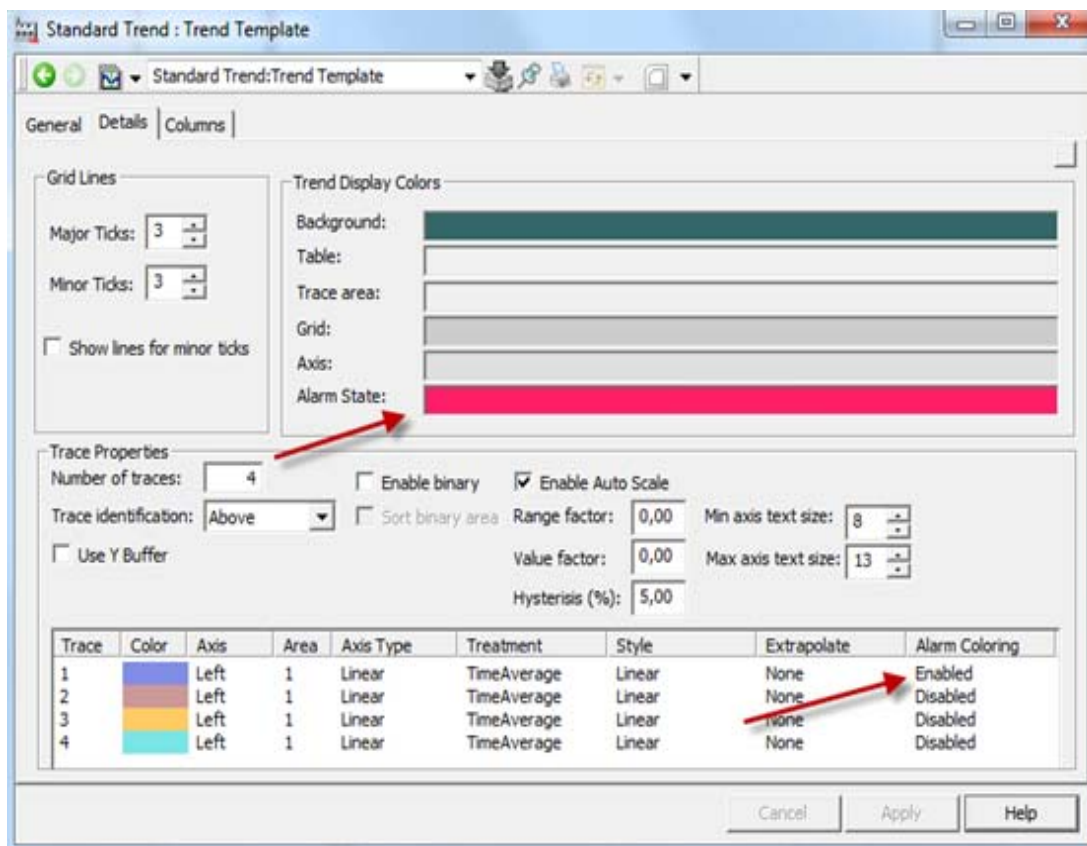

Figure 328. Trend Template Showing the Alarm State
5. The Alarm coloring should be enabled for each trace in the trend template as shown in the Figure 328.